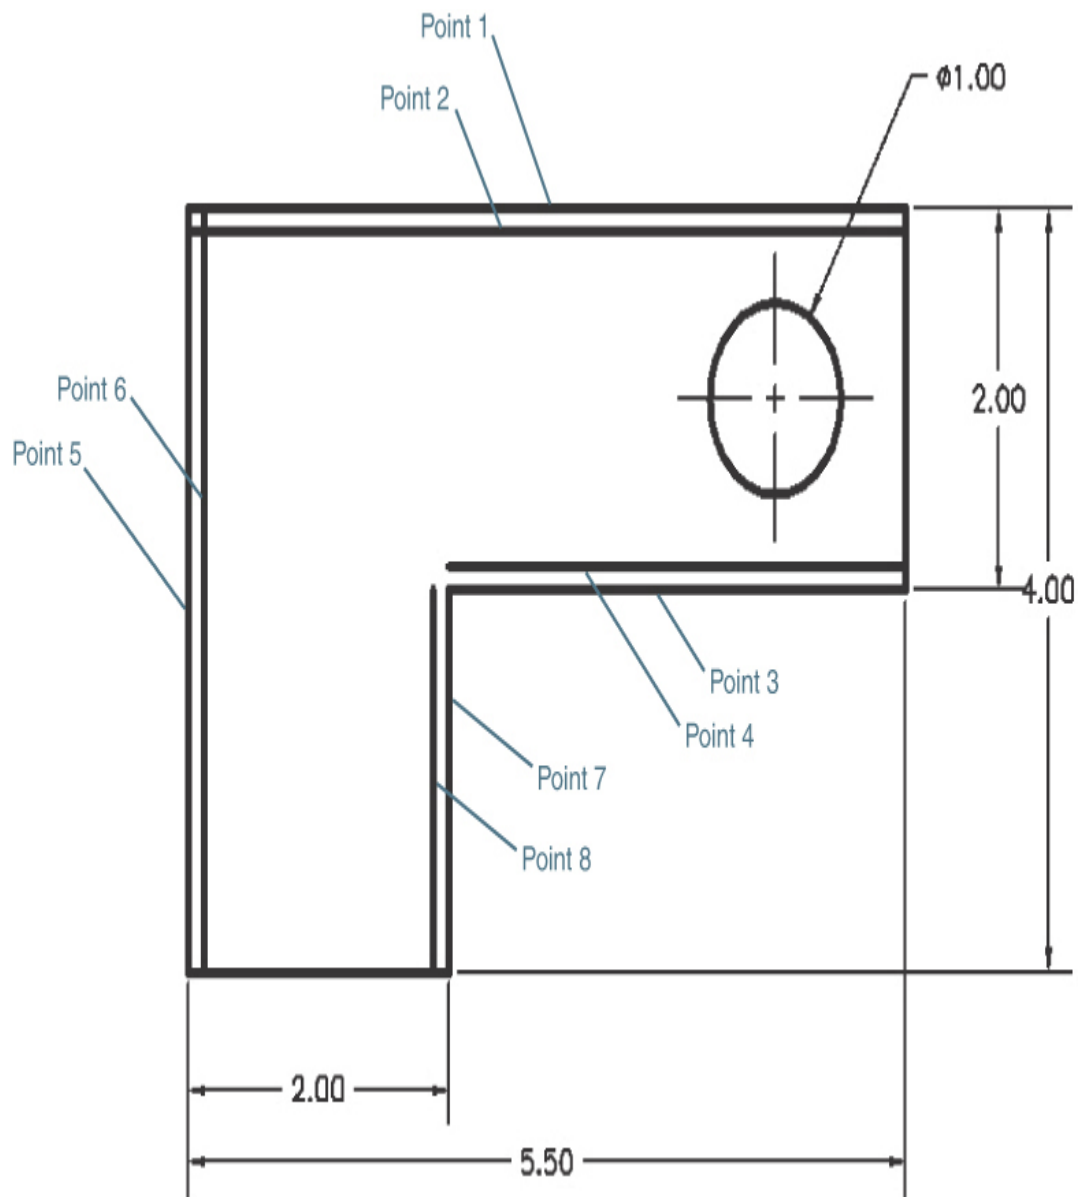

Figure 2-47
- 3** Pick the horizontal line at the top of the drawing (point 1 in Figure 2-47). AutoCAD prompts you to *Specify point on side to offset or ↓*.
- 4** Pick a point below that line (point 2 in Figure 2-47). AutoCAD places a copy of the line .125" below the original. AutoCAD prompts you again to *Select object to offset or ↓*.
- 5** Pick the next horizontal line down from the top of the drawing (point 3 in Figure 2-47). AutoCAD prompts you to *Specify point on side to offset or ↓*.
- 6** Pick a point above that line (point 4 in Figure 2-47). AutoCAD places a copy of the line .125" above the original. AutoCAD prompts you again to *Select object to offset or ↓*.
- 7** Pick the vertical line on the left side of the drawing (point 5 in Figure 2-47). AutoCAD prompts you to *Specify point on side to offset or ↓*.
- 8** Pick a point to the right of that line (point 6 in Figure 2-47). AutoCAD places a copy of the line .125" to the right of the original and prompts you again to *Select object to offset or ↓*.
- 9** Pick the next vertical line to the right of the drawing (point 7 in Figure 2-47). AutoCAD prompts you to *Specify point on side to offset or ↓*.
- 10** Pick a point to the left of that line (point 8 in Figure 2-47). AutoCAD places a copy of the line .125" to the left of the original and prompts you again to *Select object to offset or ↓*.